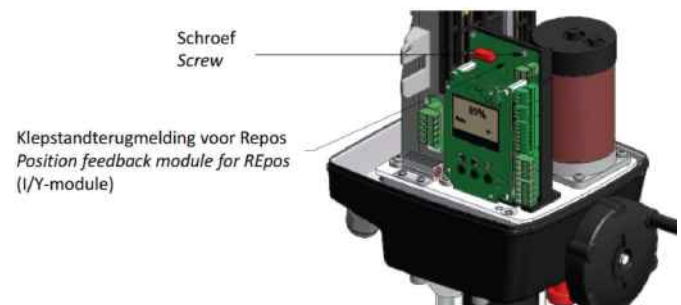

Fig 15
*The position feedback module mounts to the mounting bracket with four fixing screws (fig. 15).